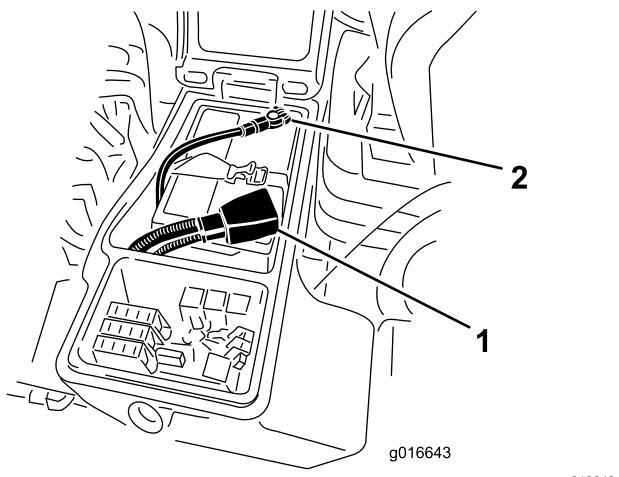

Figure 122
3. Disconnect the negative battery cable (Figure 122).